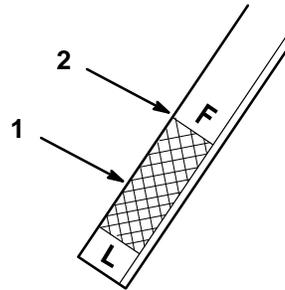

Figure 43
5. Slide the dipstick fully into the filler tube (Fig. 5). Pull the dipstick out and look at the metal end. When the transaxle is cold, oil should be in the operating range, below the FULL line on the dipstick (Fig. 43).